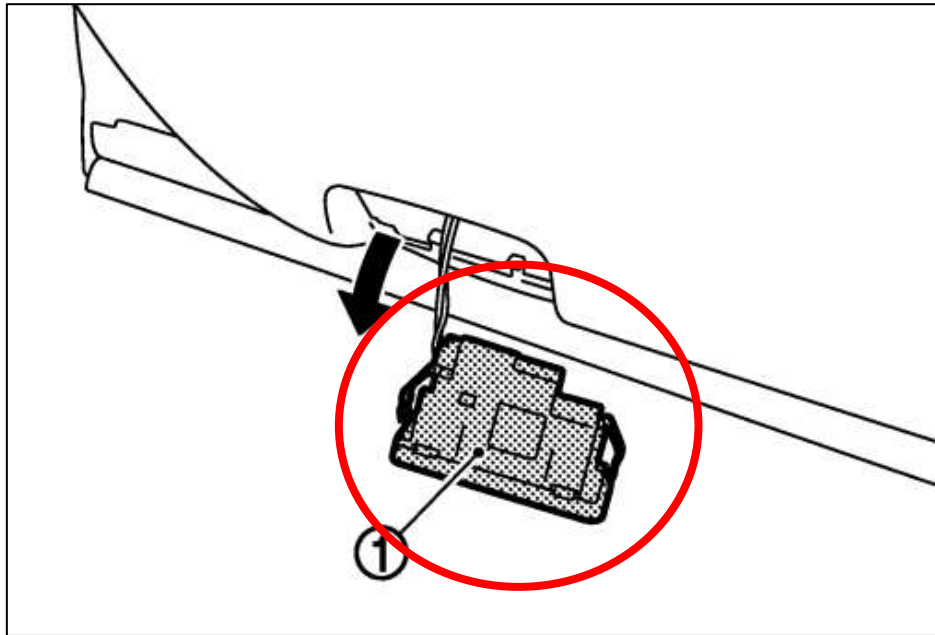

Figure 58
6. Disconnect the Step Lamp on the bottom of the Door Panel. *Figure 58.*